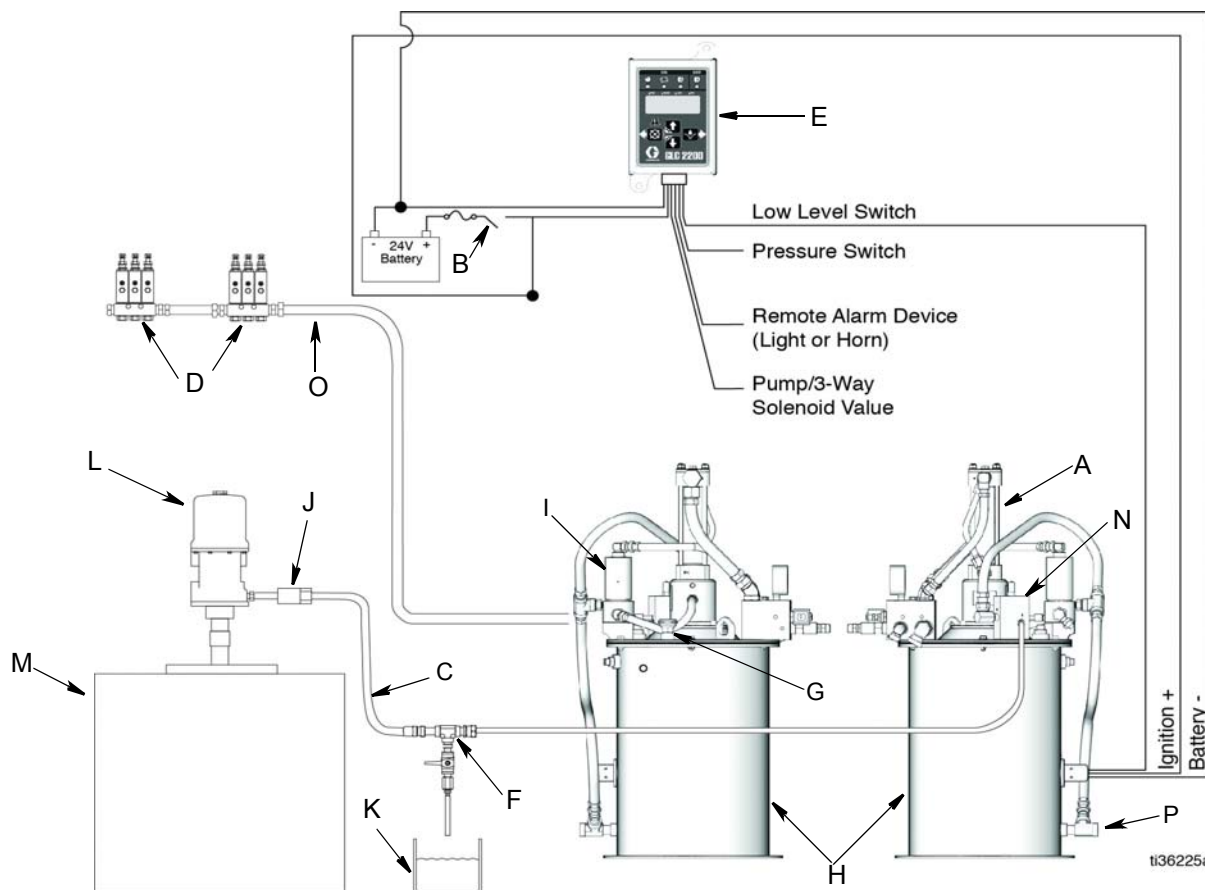
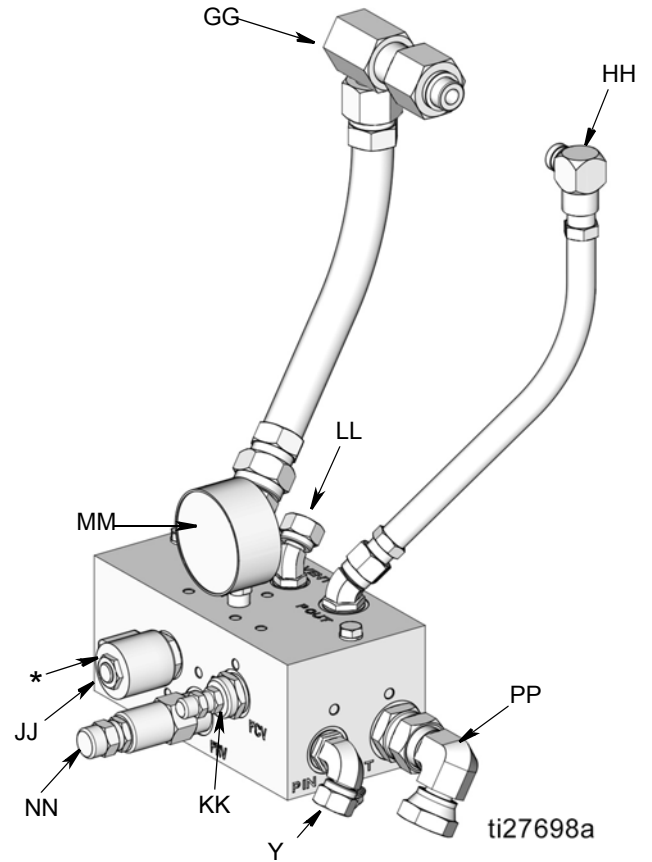

FIG. 2
**FIG. 8**
Mount reservoir (K) (FIG. 2, page 7) to a grounded chassis member.
- The hydraulic system must be depressurized before connecting high pressure lubricant supply lines (W).
- Be sure breather (J) is not plugged before filling reservoir (K).
1. Install Ball Valve (A) (user provided) in the 3/8-inch High Pressure Hydraulic Line (G) (FIG. 2, page 7).
2. Connect the 3/4-inch hydraulic tank line (T) (FIG. 2, page 7) to the tank hydraulic connection swivel (PP) (FIG. 9, page 11).
4. Connect high pressure lubricant supply line (W) (FIG. 2, page 7) to the lubricant output connection (CC) (FIG. 8, page 11).
6. Connect the 3/8-inch high pressure hydraulic line (G) (FIG. 2, page 7) to the high pressure hydraulic connection swivel (Y) (FIG. 9, page 11).
To relieve the stall pressure in the refilling line (D) a pressure relief valve (H) (FIG. 2, page 7) or a fill valve (Z) (FIG. 7, page 10) **must** be installed in the system.
**NOTE:** Unless otherwise noted, the reference letters used in the following instructions refer to FIG. 2, page 7.